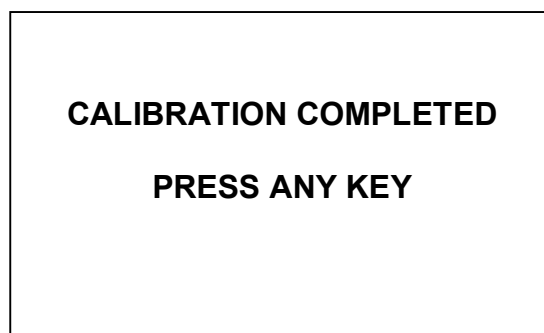

Fig. 2.13
- 5 As soon as analyzer readings become steady (approximately in 10 min) press the key **RECORD**/**ENTER**. The display shown in Fig. 2.13 shall come up.
If in 10 min the key **RECORD**/**ENTER** is not depressed, the analyzer shall terminate calibration process and go over to the display shown in Fig. 2.13.